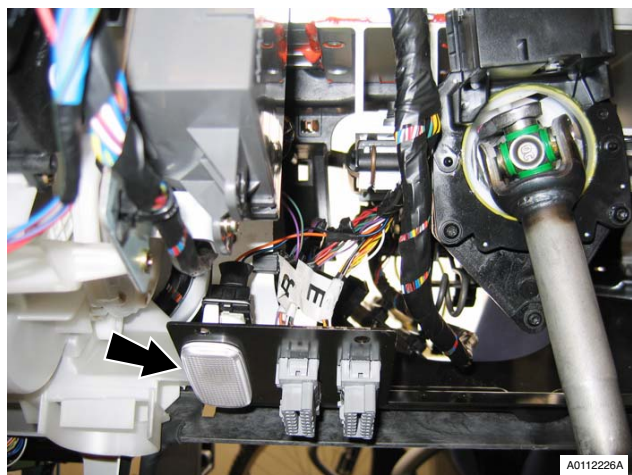

Figure 6
10. Remove RH footwell lamp (see Figure 6).